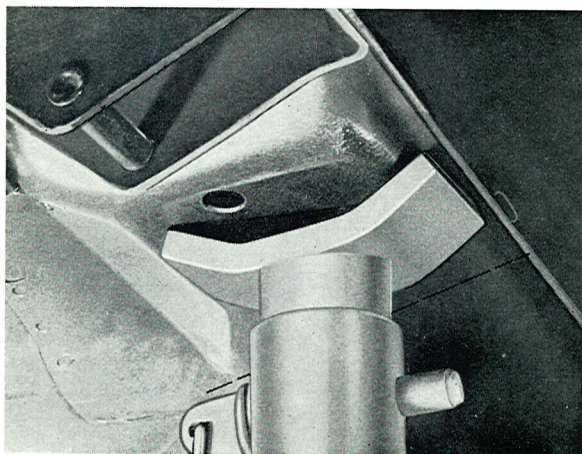

Fig. 2-12. Location of the block stand
10. Jack up the vehicle with four blocks (under the front jack attachment and in front of the rear jack attachment according to Fig. 2-12).